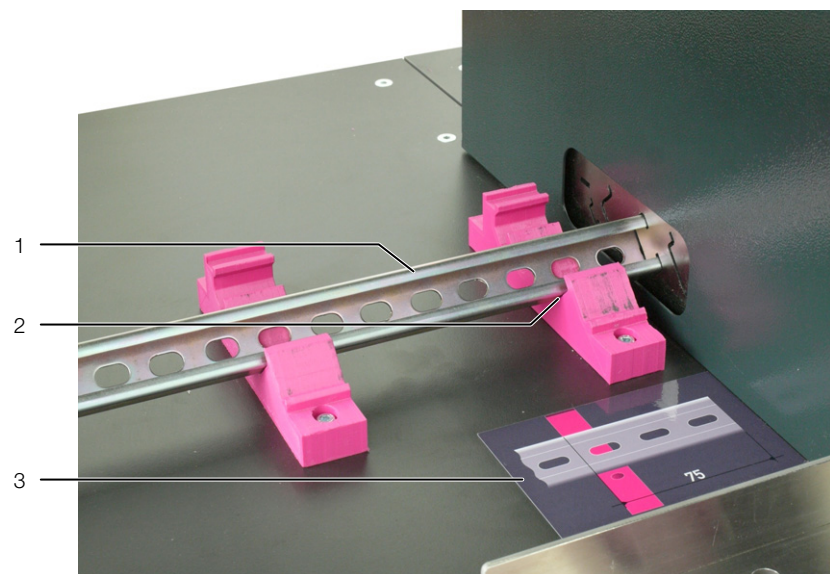

Fig. 14: Placing a support rail on the support
- Place the support rail on the label so it points exactly to a possible separation point, appropriate for the hole pattern (normally centred between two elongated holes, fig. 14).